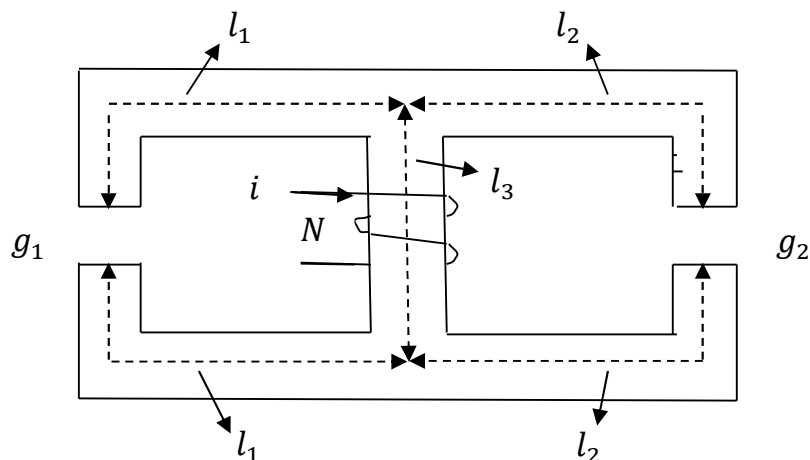

Figure 2
- Consider the magnetic structure of Figure 2 which consists of three sections, namely, the left limb, the center limb and the right limb.